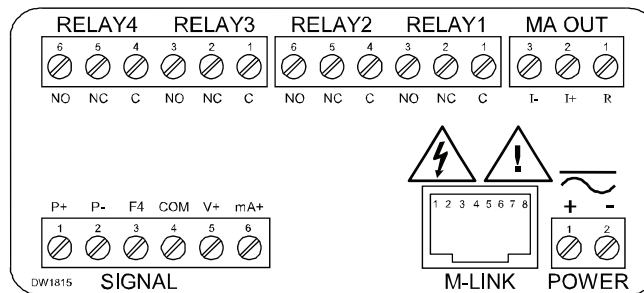

Figure 5: Connector Labeling for Fully Loaded PD6200
Power connections are made to a two-terminal connector labeled POWER on Figure 5. The meter will operate regardless of DC polarity connection. The + and - symbols are only a suggested wiring convention.
Signal connections are made to a six-terminal connector labeled SIGNAL on Figure 5. The COM (common) terminal is the return for the 4-20 mA and the ± 10 V input signals.
Serial communications connection is made to an RJ45 connector labeled M-LINK on Figure 5. For interfacing to the PROVU®, use the PDA1232 for RS-232 or the PDA1485 for RS-485. The same port is used for interfacing with all expansion modules (e.g. external relays, digital I/O).
Relay connections are made to two six-terminal connectors labeled RELAY1 – RELAY4 on Figure 5. Each relay's C terminal is common only to the normally open (NO) and normally closed (NC) contacts of the corresponding relay. The relays' C terminals should not be confused with the COM (common) terminal of the INPUT SIGNAL connector.